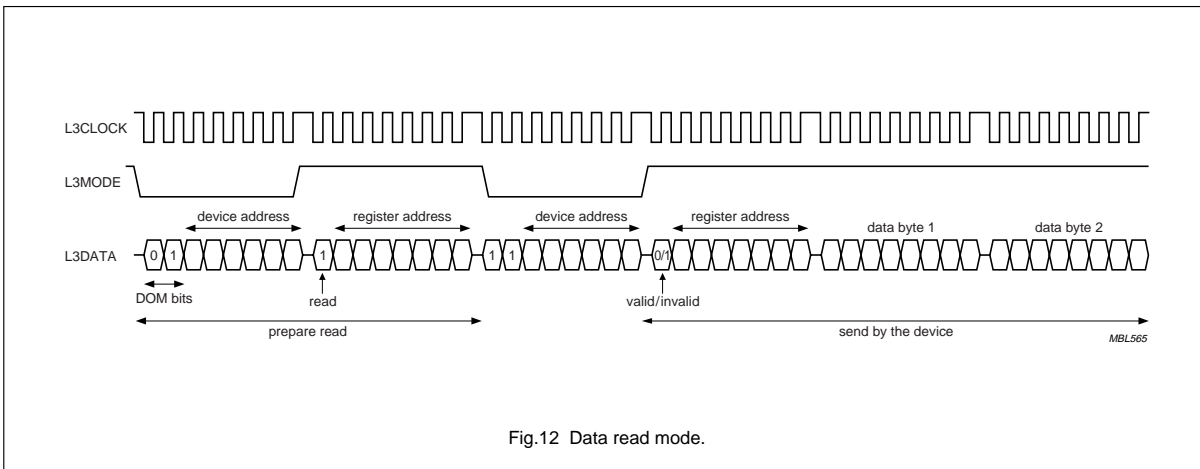

Fig.12 Data read mode.
2. Addressing for prepare read: bit is logic 1, indicating that data will be read from the register (see Fig.12)
3. Addressing for data read action. Here, the device returns a register address prior to sending data from that register. When bit 0 is logic 0, the register address is valid; when bit 0 is logic 1, the register address is invalid (see Fig.12).
To read data from the device, a prepare read must first be done and then data read. The data read mode is explained in the signal diagram of Fig.12.